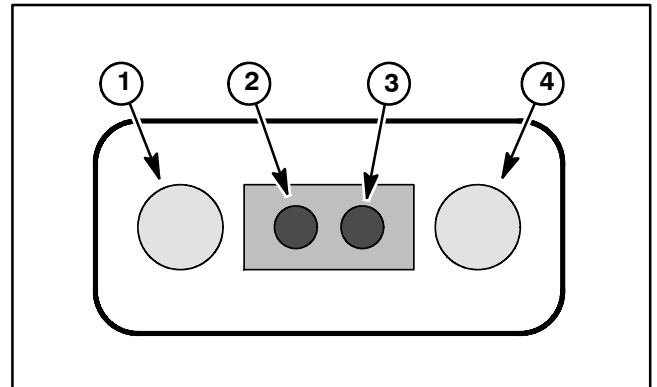

Figure 21
The sonic sensor includes a LED window that identifies sensor status during sprayer operation during operation of the Ultra Sonic Boom system (Fig. 21). To view the LED window, carefully remove cover from sonic sensor. The LED window includes four (4) LED's.